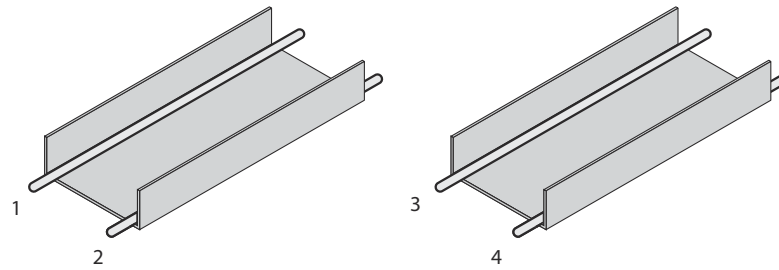
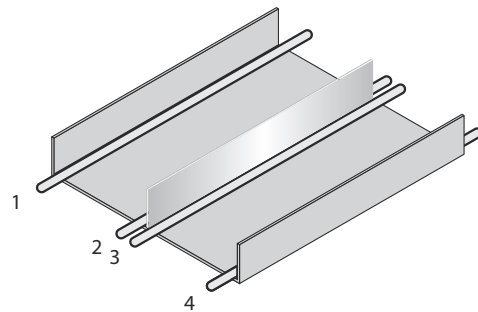

Figure 8: Ideal laying - Place cables in different cable ducts
Figure 9: Alternative laying - Separate cables with metallic separators
- ▶ Cables in groups 1, 2 and 3, 4 must be routed in different cable ducts or metallic separators must be used, see figure 8 and see figure 9. This applies particularly where cables of devices with a high level of radiated emission, such as frequency converters, are laid parallel to sensor cables.